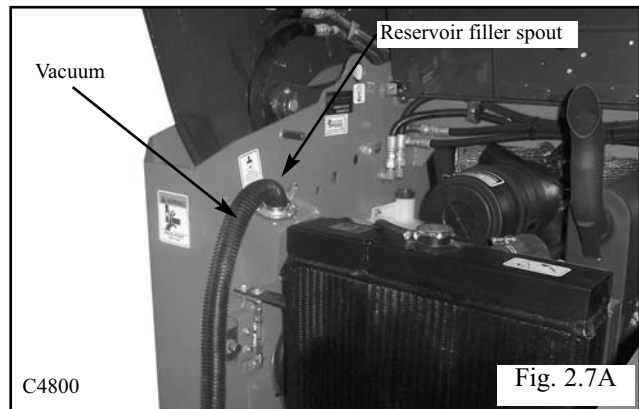

Fig. 2.7A
- 2 Attach a vacuum system to the hydraulic oil reservoir filler location. (Fig. 2.7A) Drain the oil reservoir if a vacuum is not available. Seal the threads on the drain plug with teflon tape or a liquid form of pipe sealant before reinstalling.